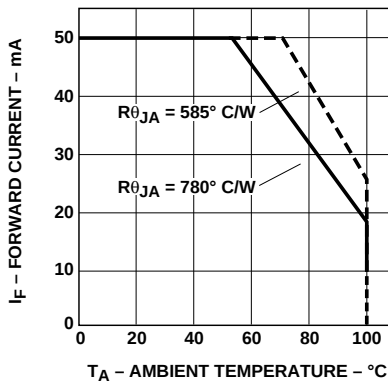

Figure 4. Maximum Forward Current vs. Ambient Temperature for 5 mm Lamps. Derating Based on $T_{JMAX} = 130^\circ \text{C}$.
1. Derate linearly as shown in Figure 4.